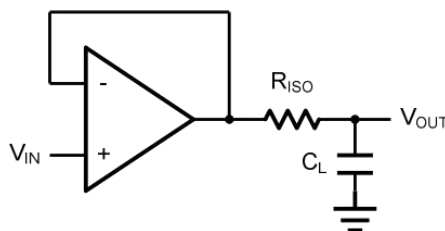
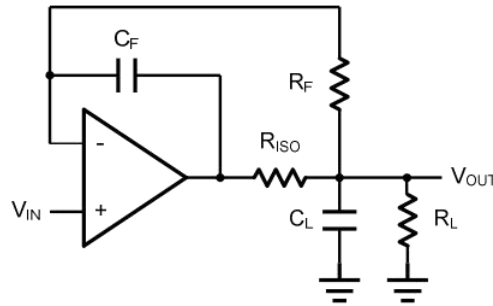

Figure 2. Indirectly Driving a Capacitive Load Using Isolation Resistor
Figure 3. Indirectly Driving a Capacitive Load with DC Accuracy
The HG855x family is optimized for bandwidth and speed, not for driving capacitive loads. Output capacitance will create a pole in the amplifier's feedback path, leading to excessive peaking and potential oscillation. If dealing with load capacitance is a requirement of the application, the two strategies to consider are (1) using a small resistor in series with the amplifier's output and the load capacitance and (2) reducing the bandwidth of the amplifier's feedback loop by increasing the overall noise gain. Figure 2 shows a unity gain follower using the series resistor strategy. The resistor isolates the output from the capacitance and, more importantly, creates a zero in the feedback path that compensates for the pole created by the output capacitance.
The circuit in Figure 3 is an improvement to the one in Figure 2.  $R_F$  provides the DC accuracy by feed-forward the  $V_{IN}$  to  $R_L$ .  $C_F$  and  $R_{ISO}$  serve to counteract the loss of phase margin by feeding the high frequency component of the output signal back to the amplifier's inverting input, thereby preserving the phase margin in the overall feedback loop. Capacitive drive can be increased by increasing the value of  $C_F$ . This in turn will slow down the pulse response.